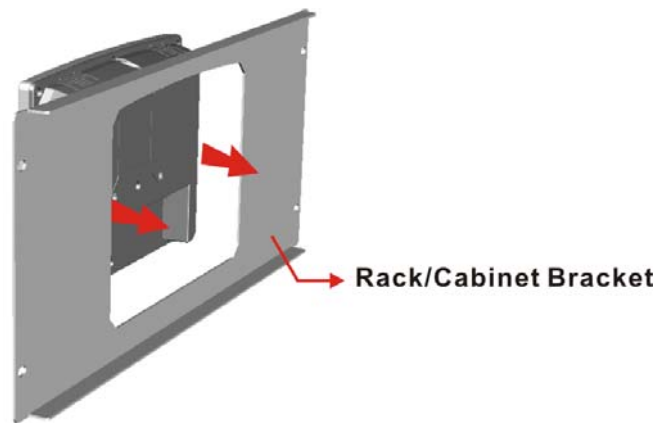

Figure 2-16: The Rack/Cabinet Bracket
- Step 1:** Slide the rear of the AFL-08B-N270 panel PC through the rack/cabinet bracket until the aluminum frame is flush against the front of the bracket (**Figure 2-16**).